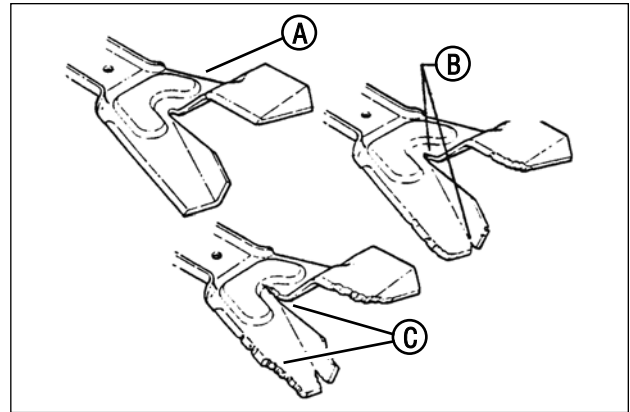

Figure 19: Ninja blade wear limits
1. Inspect the blade (**Figure 19**) frequently for signs of excessive wear or damage:
- (A) New blade
- (B) Wear limit (cracks or notches begin to appear on tip)
- (C) Dangerous condition! Do not use on the mower! Replace with a new blade.